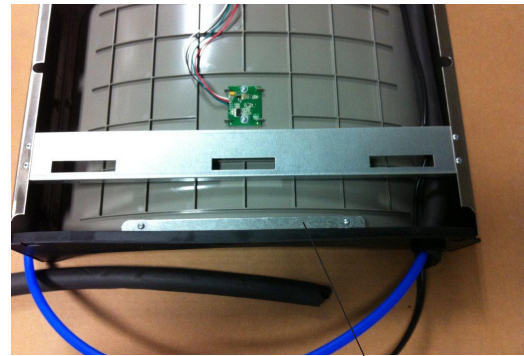

Fig. 10
- 6) **Install gasket on bottom of bottle filler tower** with gasket support bracket & (2) screws (See Fig 10).